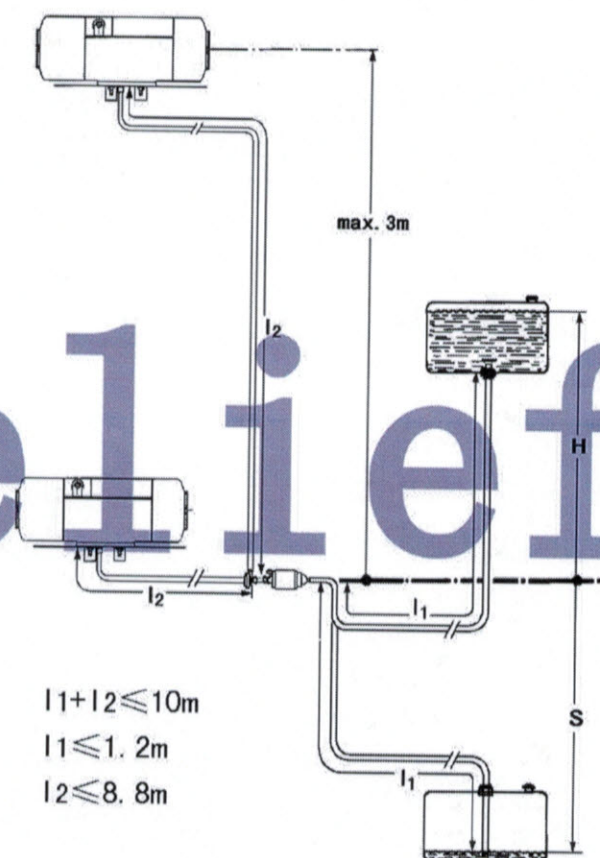

Fig. 12
4.4.2 The elevation difference between the heater and the heater fuel pump and between the fuel tank and the heater fuel pump produces pressure (or suction force) from fuel to the fuel pump. The inner diameter and length of the fuel tube is related to the resistance of the fuel route. Such factors shall be included in your consideration at installation. Please refer to Fig. 12 for related data.